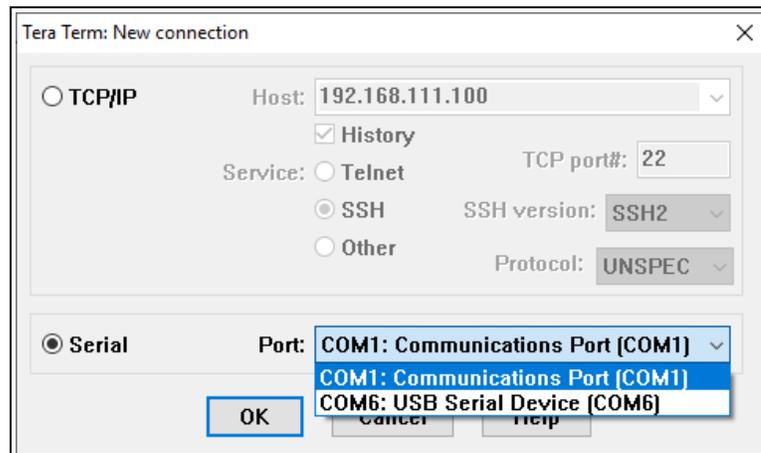

Figure 57: Select the Z9-P or Z9-PE COM Port
3. Click the **Port** list box arrow and select the COM port the Z9-P or Z9-PE is connected to. Figure 57